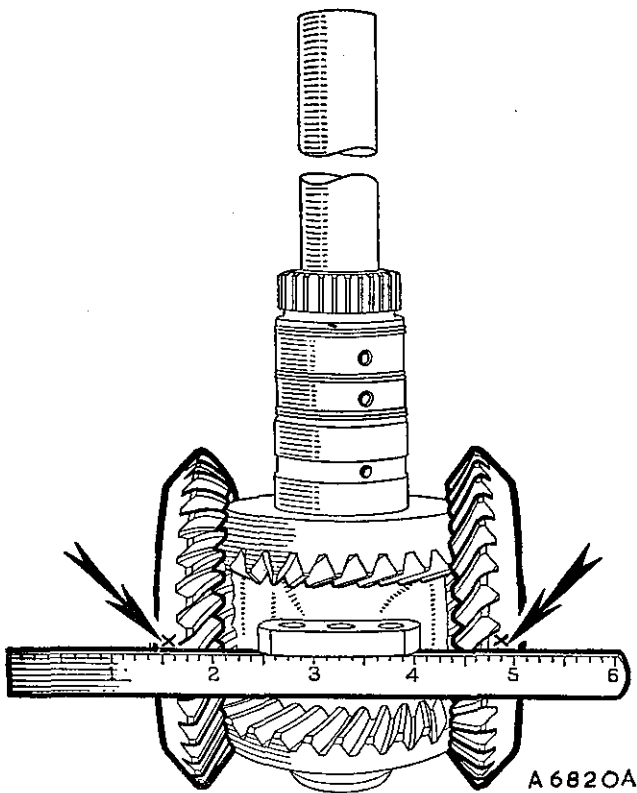

Fig. Fa.45
(21) Insert Service tool 18G 1093 A through the forward output gear and the assembly to ensure correct alignment.
(22) Check and reset the timing of the gear train (see Fig. Fa.45) by rotating the planetary gears until the timing marks are in alignment.
(23) Retain the timed position of the gear train and refit to the carrier ensuring that both timing marks align with the dowel surface of the carrier.
(24) Refit the planetary gear needle-roller bearings and tap in the spindles (with the hole on the centre of the spindle facing downwards).
(25) Insert a ball into each spindle and screw in the locking screws. Refit the locking screw circlips, end covers, and the cover circlips.